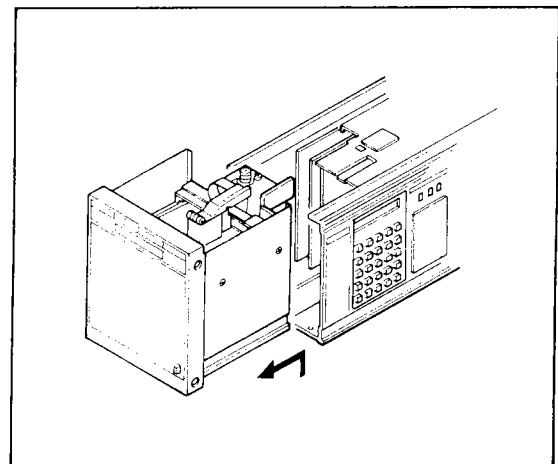

Figure 10-4. Chart Drive Unit Removal.
- (6) While lifting up the chart drive unit, gently move it in the direction of the arrow (see Figure 10-4). Do not damage the flexible printed circuit board.